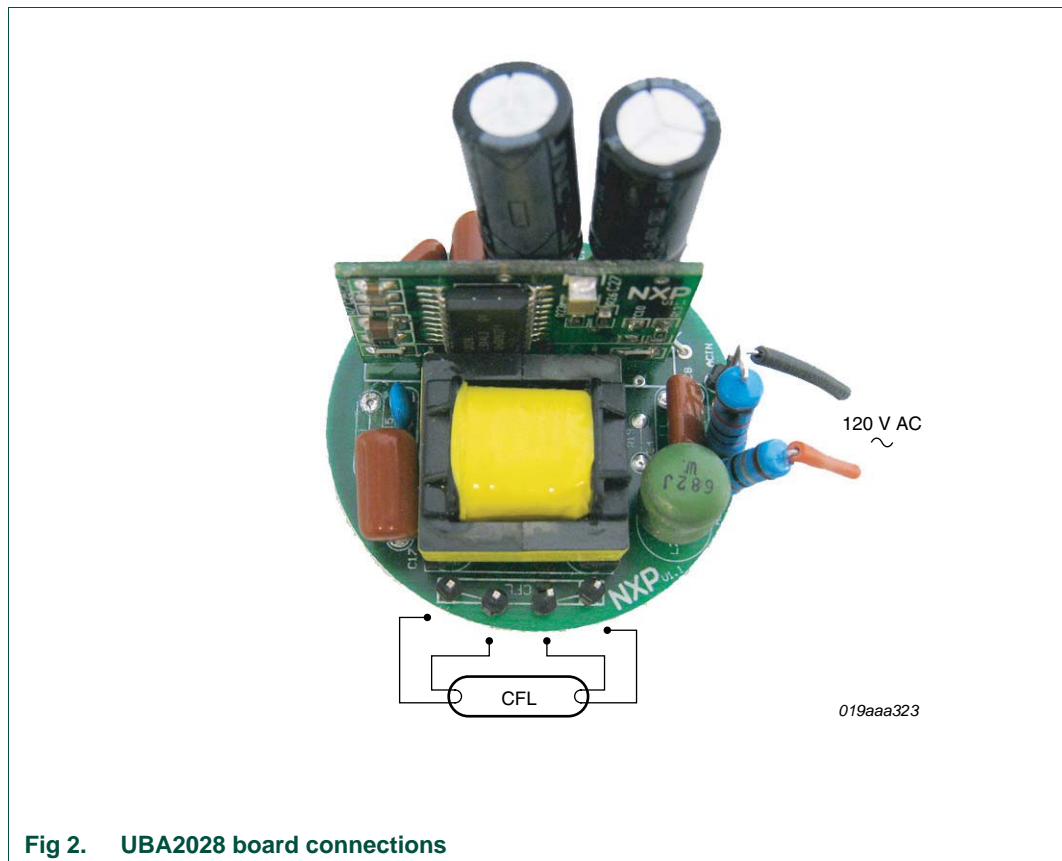

Fig 2. UBA2028 board connections
The 120 V (AC) mains input connection and four CFL connections for the burner are connected as shown below. A fusible resistor of 2.2 Ω is placed in series with the 120 V (AC) mains input. See Figure 2: